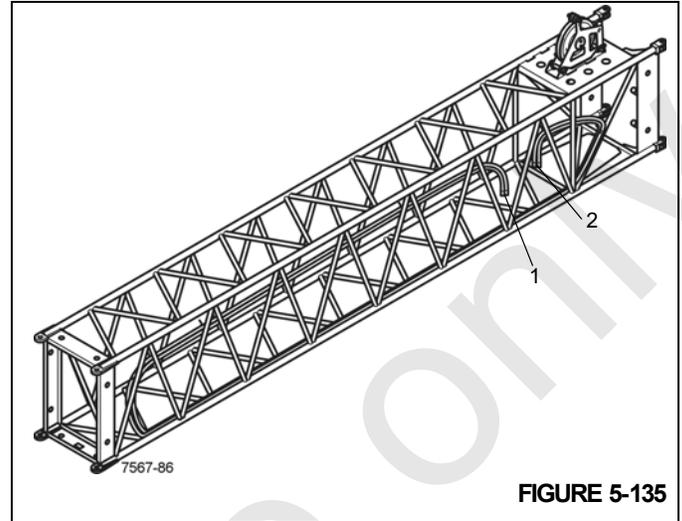

FIGURE 5-135
All hydraulic lines are located in the 26 ft (8 m) extension (Figure 5-135). The hose lines are installed so that short ends are located to the rear and long ends to the front of the extension.
The long ends (1), (Figure 5-135) of the hoses are suspended from clamps.
The short ends (2), (Figure 5-135) of the hoses are positioned at the rear of the lower cross-strut.